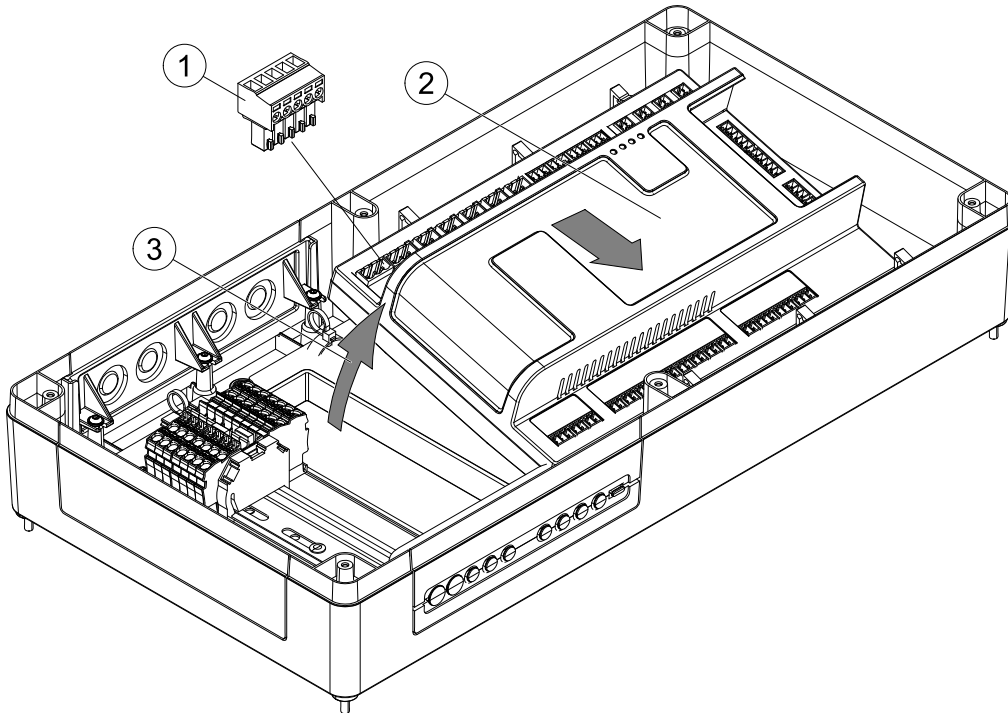

Fig. 11
Disconnect all the wired cable connectors (1) from control unit CU27-C. Push CU27-C slightly in the direction of the arrow (2), lift the opposite side up (3), figure 11.